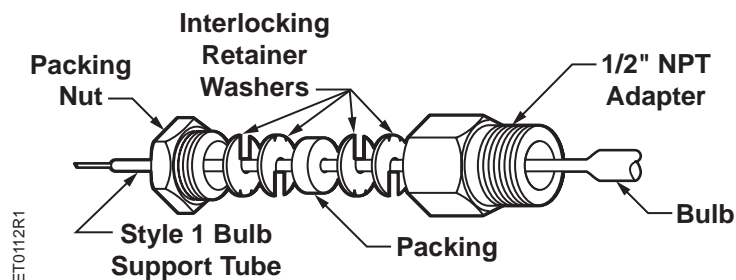

Figure 2. Part Number 141-351 Closed Tank Connector.
4. Screw packing nut into adapter with the retaining washers and packing in place as shown in Figure 2.
3. Loosen the stop screw, slide the screw to the front of the control against the plastic stop behind the dial, and tighten the screw (see Figure 2). Sometimes, an exact stop setting is not possible, and the stop must be set to the closest stop corresponding to the required dial setting.